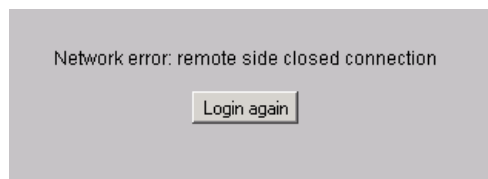

Figure 2-109 TightVNC Network Error Message
- b. Select the *Restart* option from the list box and click OK. The management server powers down and restarts. During the reboot process the LAN connection between the management server and browser-capable PC drops momentarily, and the TightVNC viewer displays a network error as shown in Figure 2-109 on page 2-119.